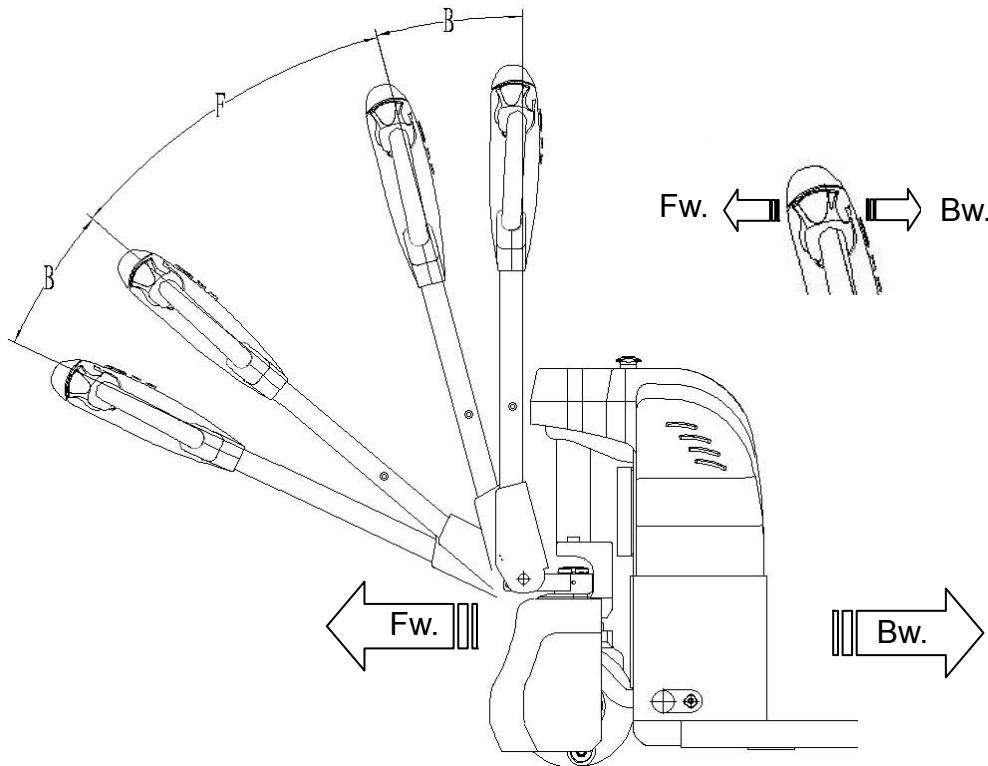

Fig. 13: Operating direction
After starting the truck by pulling the combined emergency switch (3), move the tiller to the operating zone ('F', fig.13).
Turn the accelerator button to the desired direction forward 'Fw.' or backwards Bw.'(fig. 13). Fig. 12: Load facing uphill